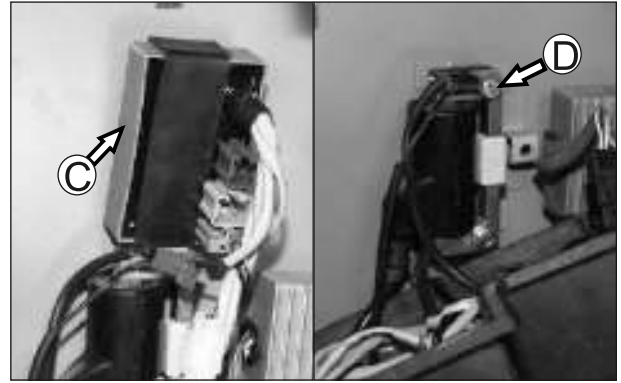

Fig. 5.86
- Pull out the TCI unit (C) from the mounting on cabin. (Fig. 5.86)
- Loosen and remove 1 no. hexagonal screw (M6x16) (D) from ignition coil assembly top mounting and separate the earth cables. (Fig. 5.86)